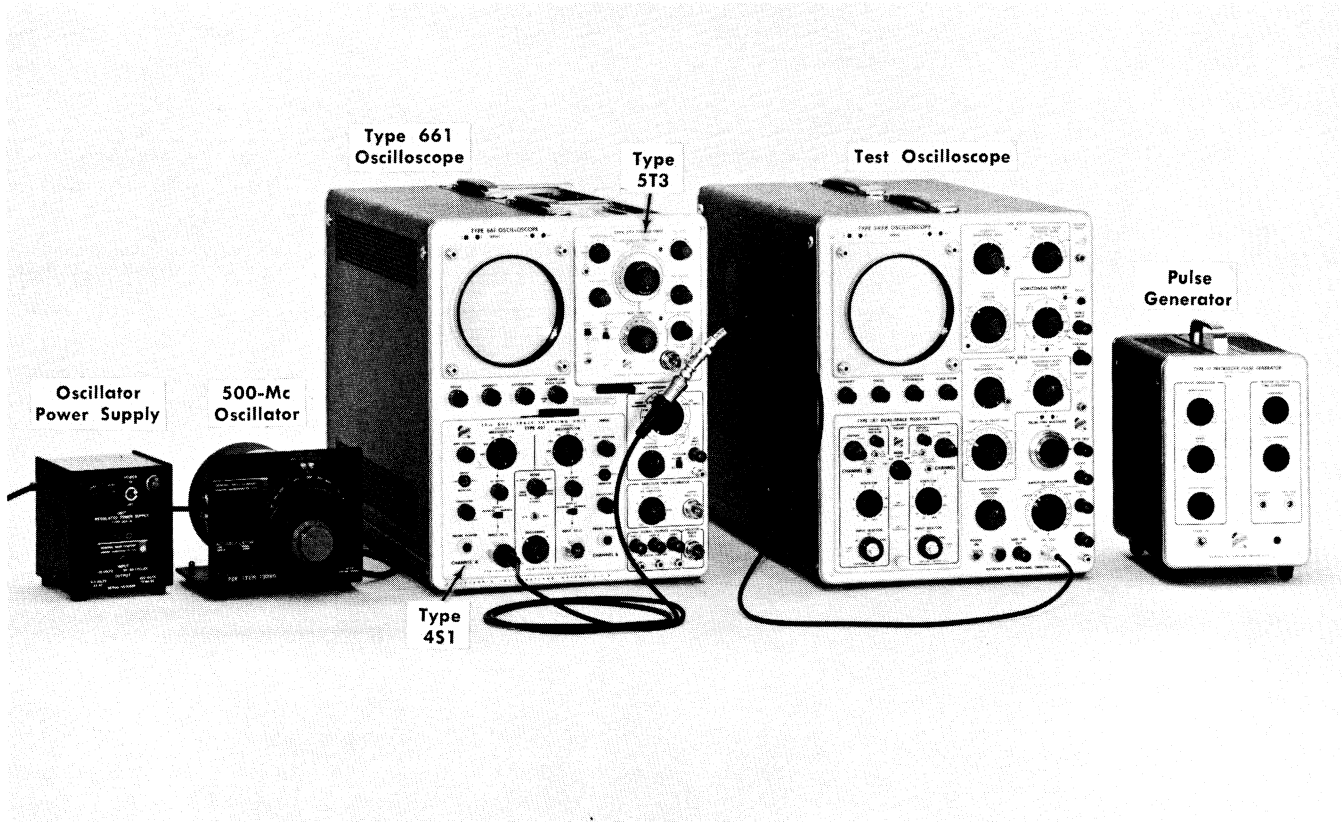

Fig. 5-34. Test equipment setup for steps 25 through 28.
- a. Test equipment setup is shown in Fig. 5-34.